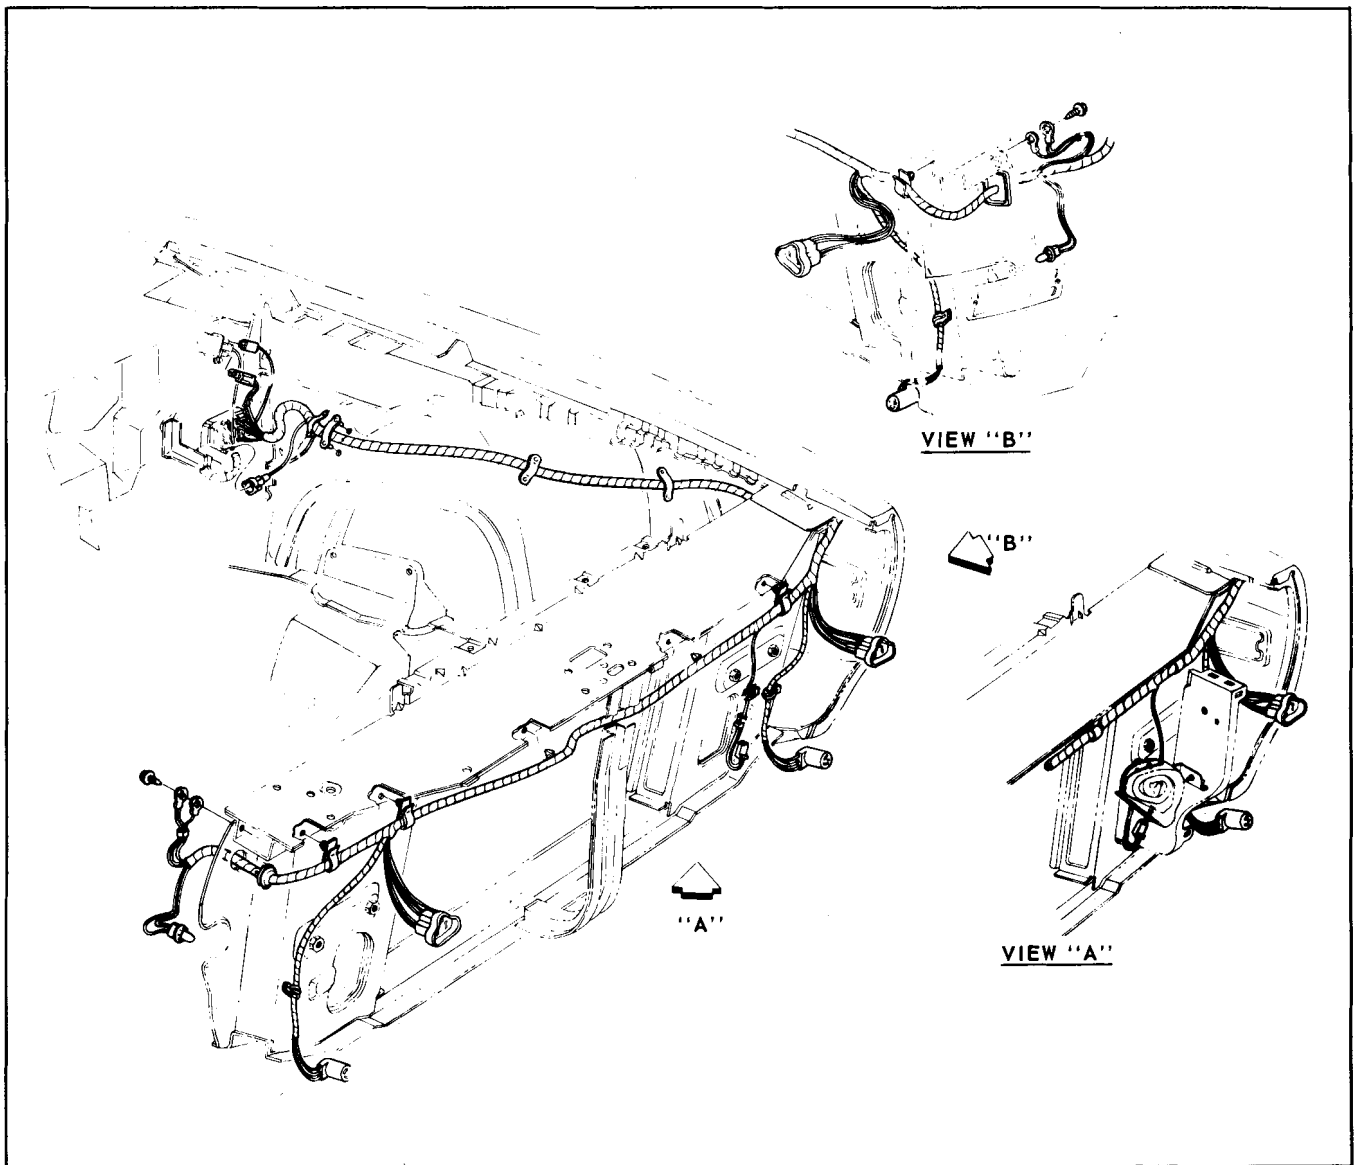

Fig. 12-63 F Series Front End Wire Harness Installation
- b. Push handle "Y" forward (to expel air from suction cup) and while holding aimer firmly against the headlamp guide points, slowly pull handle "Y" back until spring catch engages and holds it in position (Fig. 12-63).